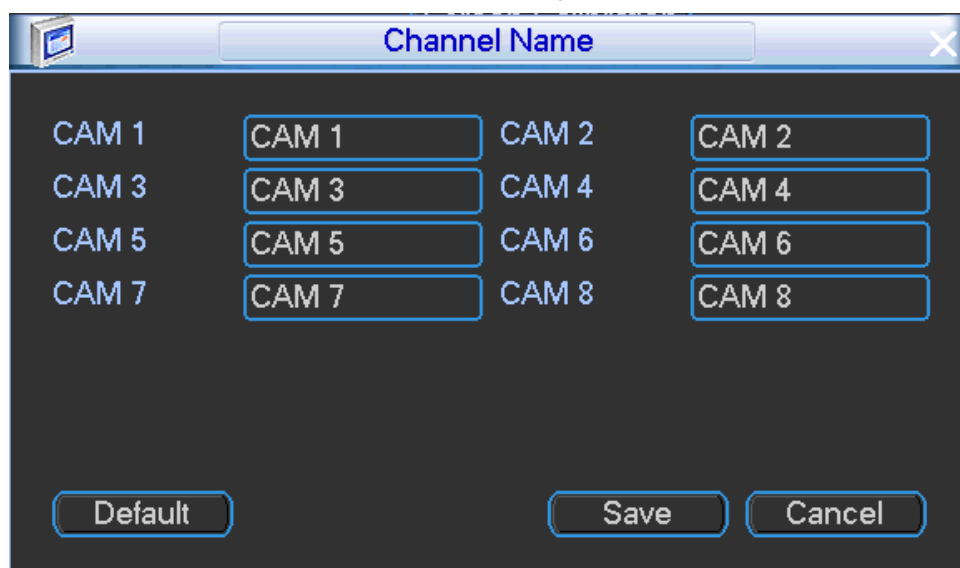

Figure 4-77
- Channel name: Here is for you to modify channel name. See Figure 4-77